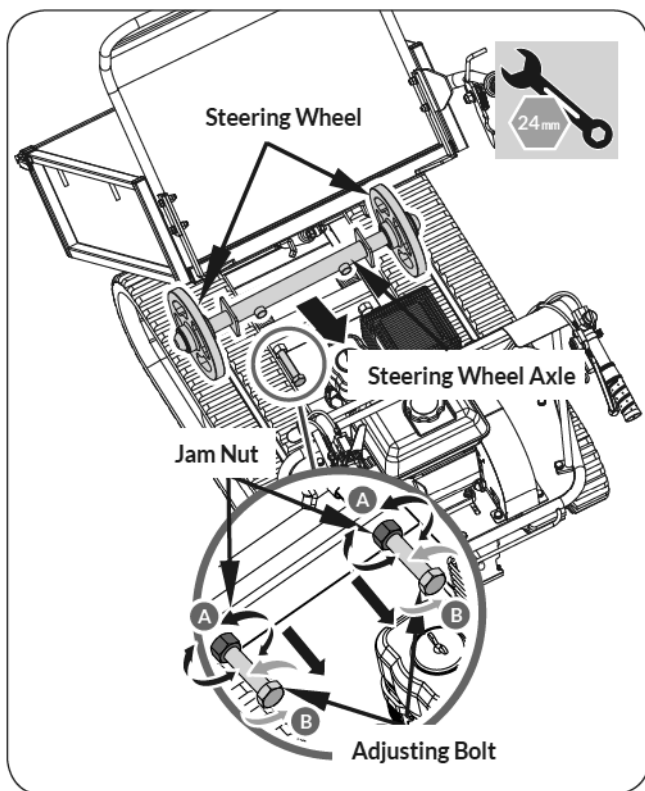

Figure 14b
3. Loosen the adjusting bolts and pull the steering wheel axle toward the engine, then track will be loosen. (See **Figure 14b**)